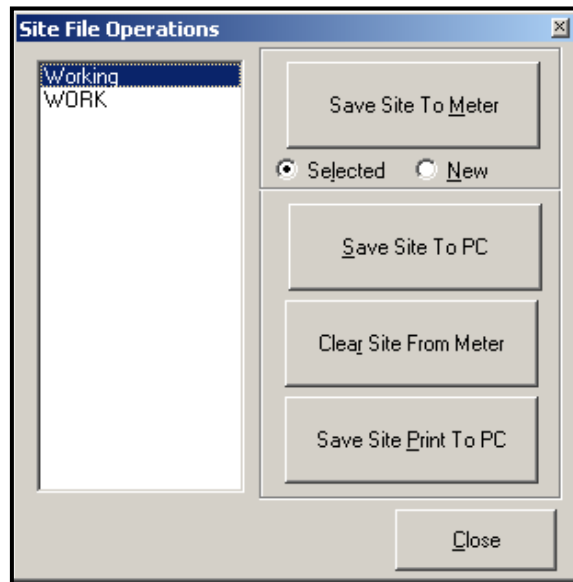

Figure 49: Site File Operations Window
3. Click on the [Site Files] button. The *Site File Operations* window (shown in Figure 49) opens.
3. The *Site File Selection* window (Figure 49 on page 66) opens. Highlight a site file with the desired settings, and click [Open]. The site file becomes the *Working* site in the meter with the desired settings.
1. Highlight the desired site in the left pane. (See Figure 49 on page 66.)
1. Highlight the site in the left pane. (See Figure 49 on page 66.)